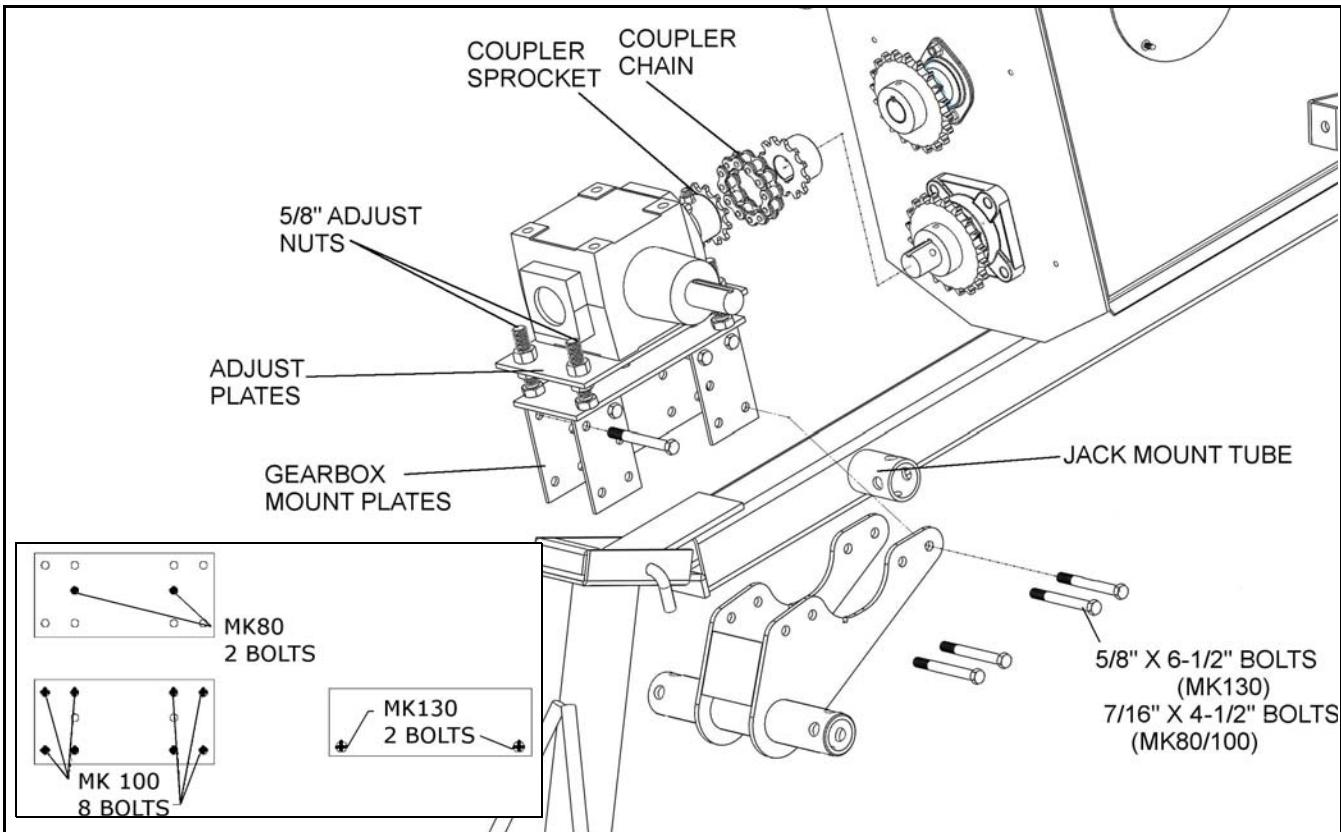

Figure 2.2
2. Remove coupler chain from coupler sprockets as shown in Figure 2.2
5. Position the jack mount below the intake hitch tube, as shown. Loosely install bolts and locknuts through mount in the appropriate locations and numbers as shown in the inset in Figure 2.2. Do not tighten these bolts until step 9.